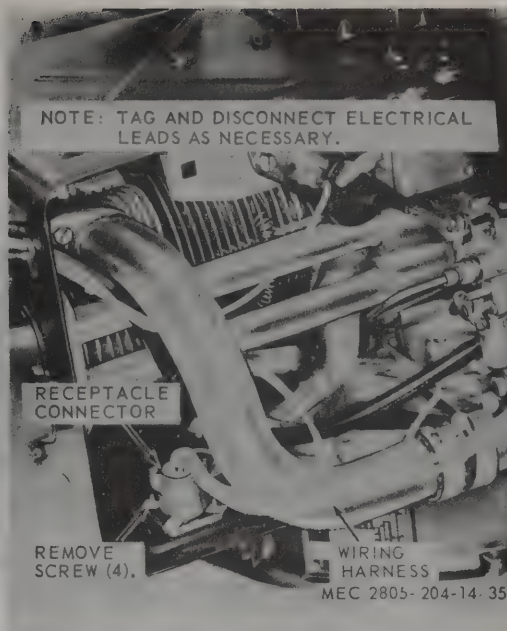

Figure 3-26. Receptacle connector and wiring harness, removal and installation.
(1) Remove top shroud (para 3-17).
(2) Refer to figure 3-26 and remove receptacle connector and wiring harness.
(1) Refer to figure 3-26 and install receptacle connector and wiring harness.
(2) Install top shroud (para 3-17).